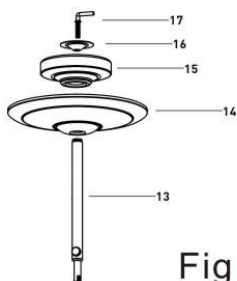

Fig 1
4. Secure the heavy weight and washer into position by fitting the base locking screw and turning it in a clockwise direction.(Fig 1)